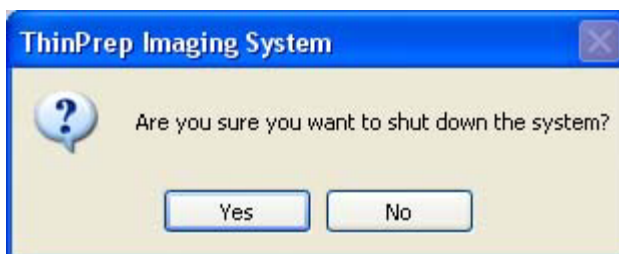

Figure 3-36 Confirm Shut Down
3. Select “Yes” to continue with shut down. (Figure 3-36).
2. Select “Yes” to continue with shut down. (Figure 3-36).